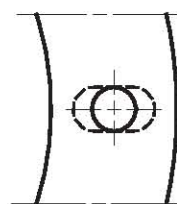

Fig. 4
- ◆ Widen, if necessary, the insulating gasket holes (4), (see fig. 4).